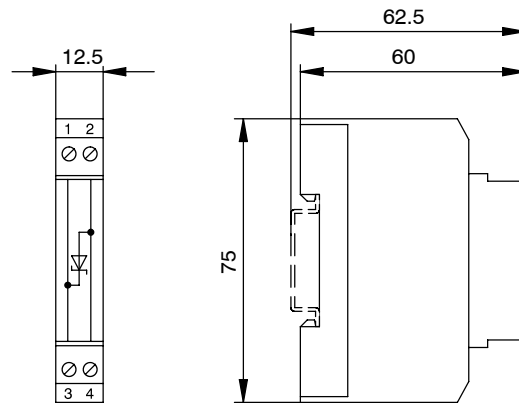

Figure 26 Ports and Dimension Drawing of the OVP 001
- ❑ OVP 001 (Figure 26) for 10 A and top hat rail mounting